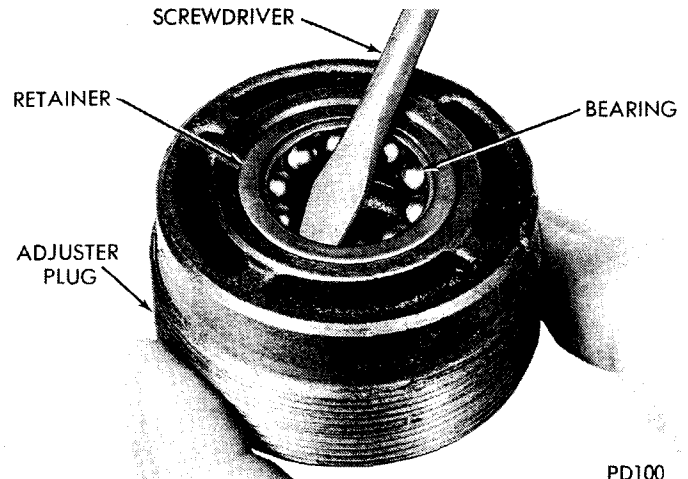

Fig. 6—Removing Lower Bearing Retainer
(8) Using a screwdriver, pry the lower bearing retainer from the adjuster plug, and remove the bearing (Fig. 6).
(9) Remove lock nut from sector shaft adjusting screw and remove screw from cover by turning screw clockwise. Slide the adjuster screw and shim out of the slot in the end of the sector shaft.
(10) Remove wormshaft and sector shaft seals.